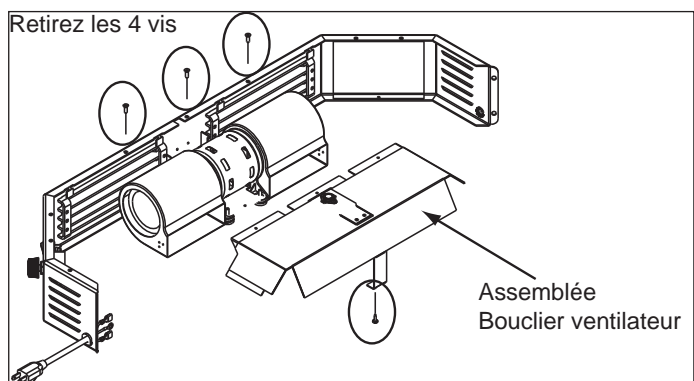

Figure 22.2
2. Remove the blower shield assembly using a Phillips head screwdriver and remove the 4 screws. Disconnect snap disc from the wire harness. **Figure 22.2.**